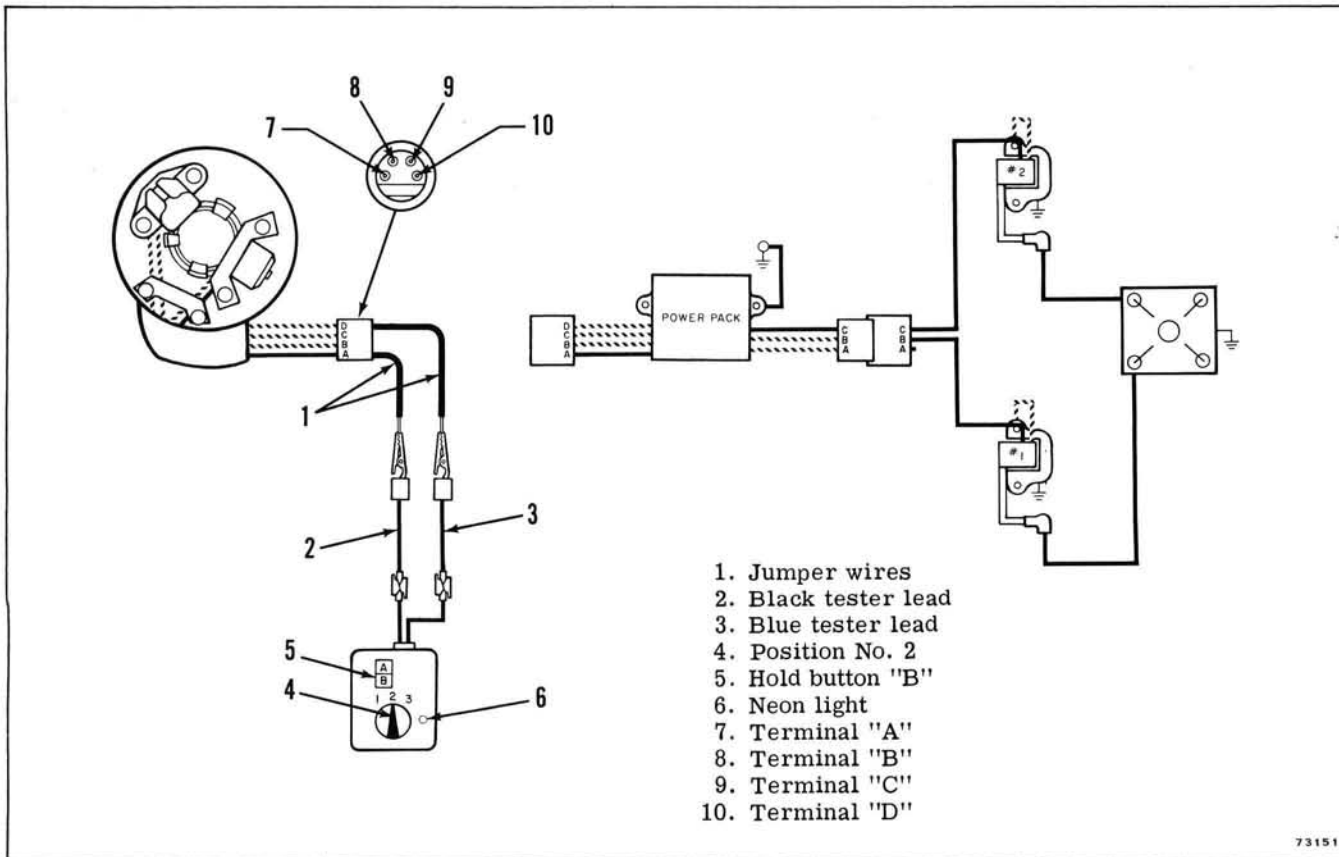

Figure 4-21. Charge Coil Output Test
a. Insert a jumper wire to terminal "A" and terminal "D" in the armature plate end, of the four wire connector. See Figure 4-21.
b. Connect the neon tester leads to the jumper wires as shown. See Figure 4-21.